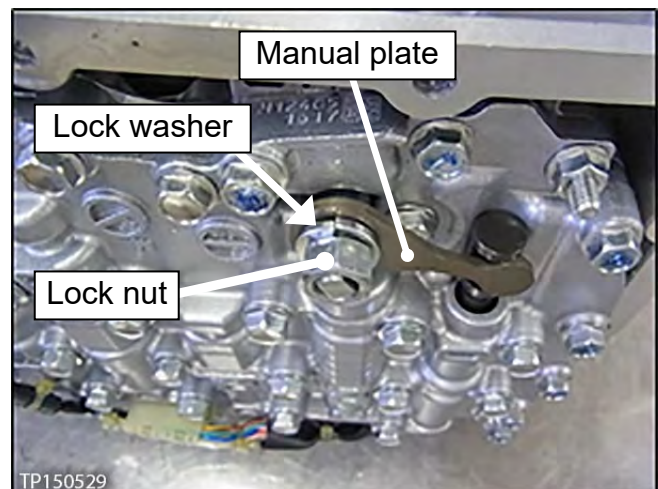

Figure 27
2. Remove the nut and lock washer to remove the manual plate (see Figure 27).